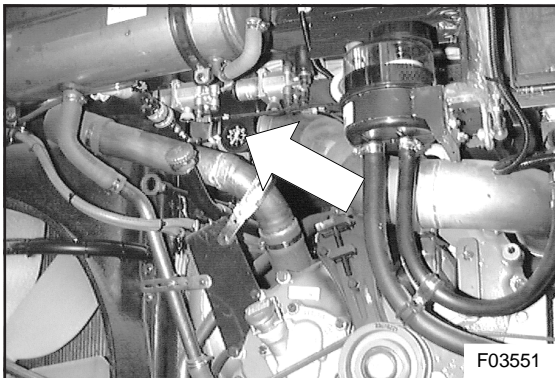

Figure 36: Optional coolant temperature gauge
- 3 Below the surge tank, an optional coolant temperature gauge may be installed (see Figure 36). Use diagonal cutter pliers to remove the wire straps securing the temperature gauge lead.